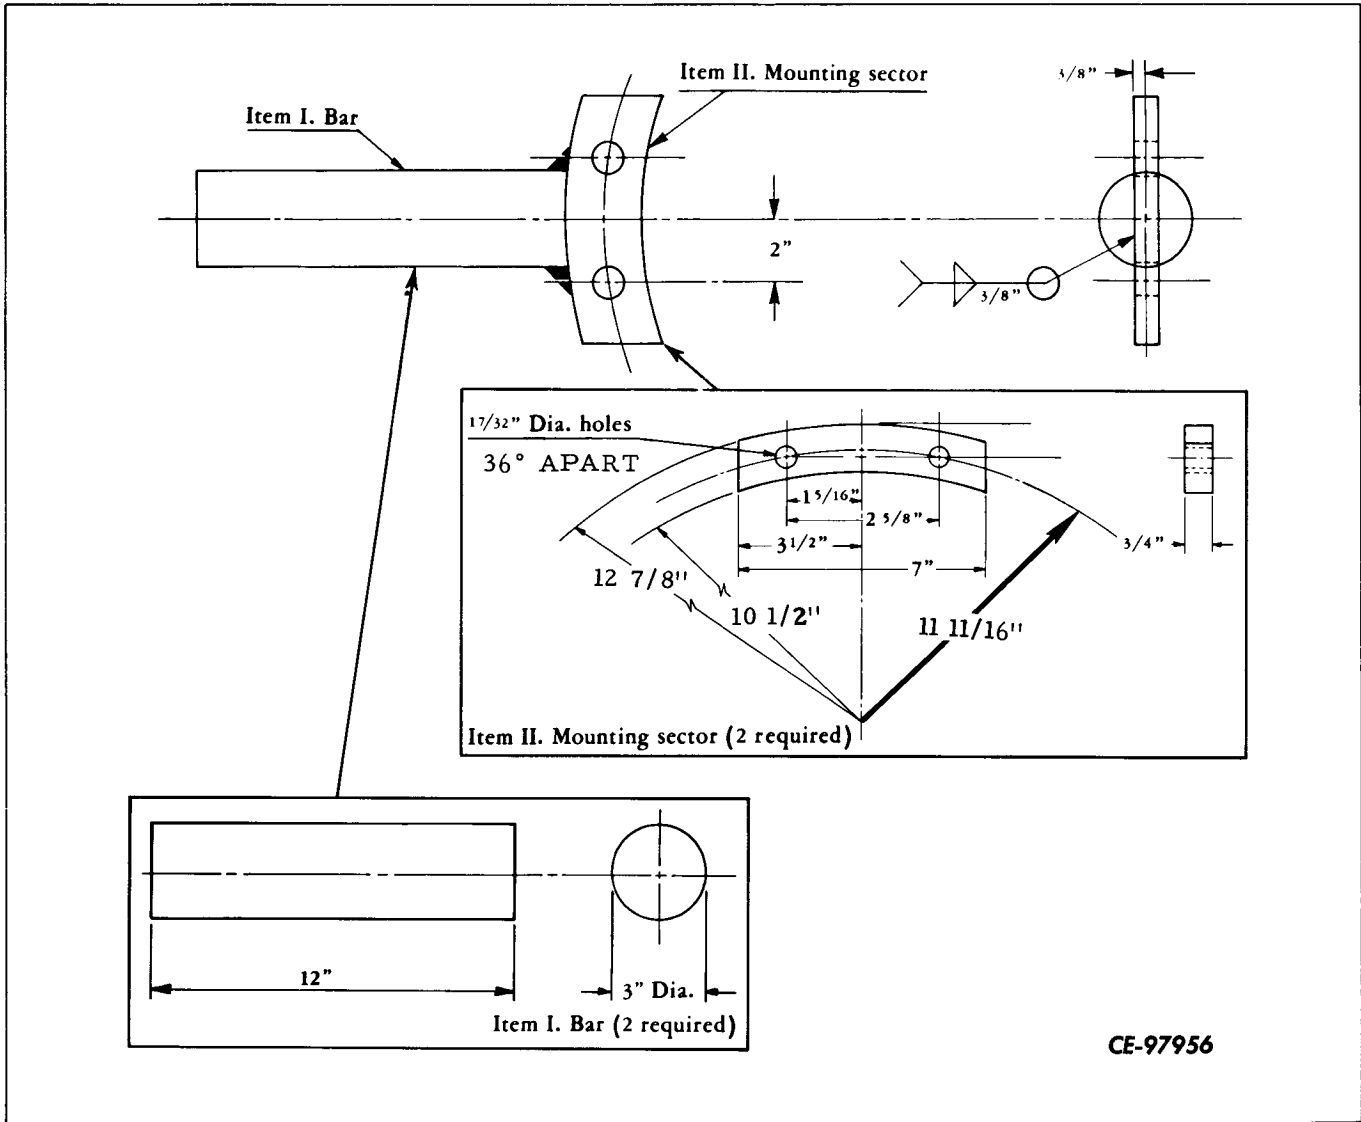

Figure 6-75
- A. Swivel weldment (Fig. 6-75).